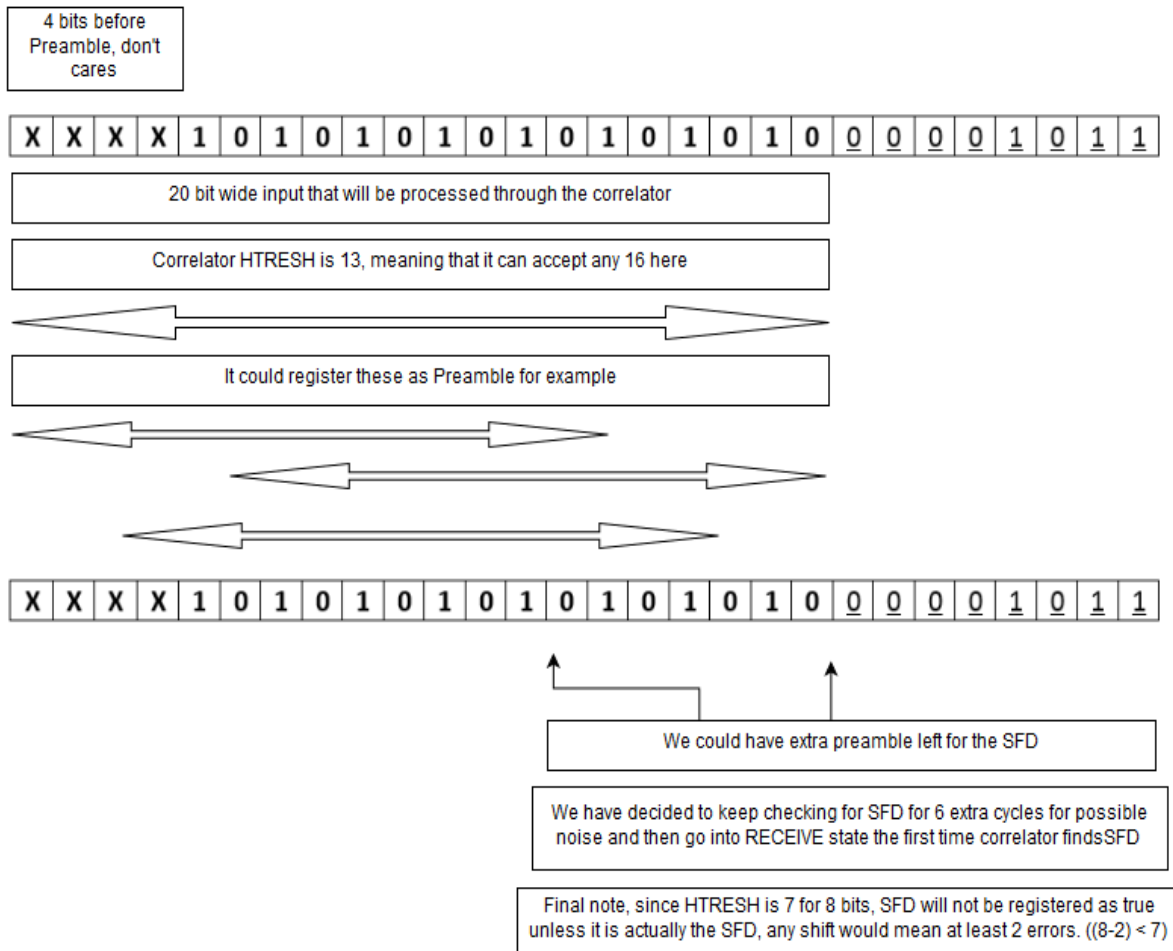

Figure 2
- We will check extra preamble bits before SFD with a correlator that will shift register 14 bits until SFD is found → goes into RECEIVE state (Figure 2)